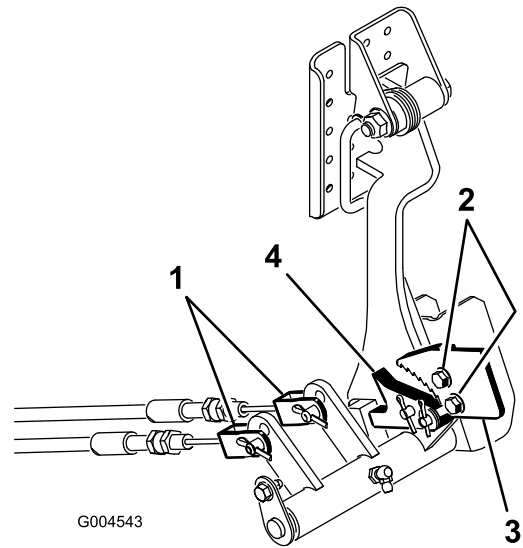

Figure 75
1. Remove the cotter pins and clevis pins securing the brake cables to the brake pedal rod (Figure 75).
2. Loosen the 2 screws securing the parking brake pawl to the frame (Figure 75).
3. Press the parking brake pedal forward until the brake detent completely engages on the brake pawl (Figure 75).